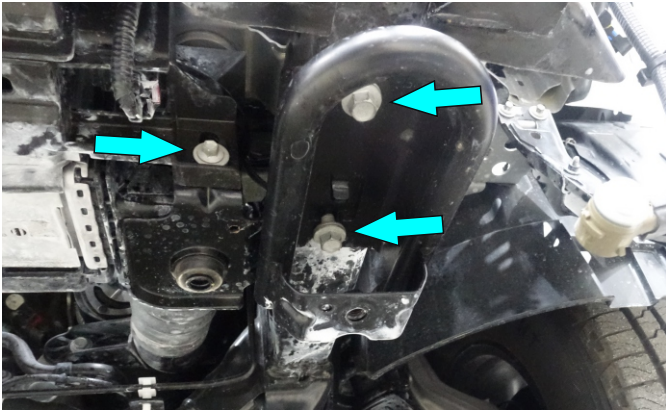

Fig.25
25. Remove factory recovery point from left side of vehicle (fig.25).